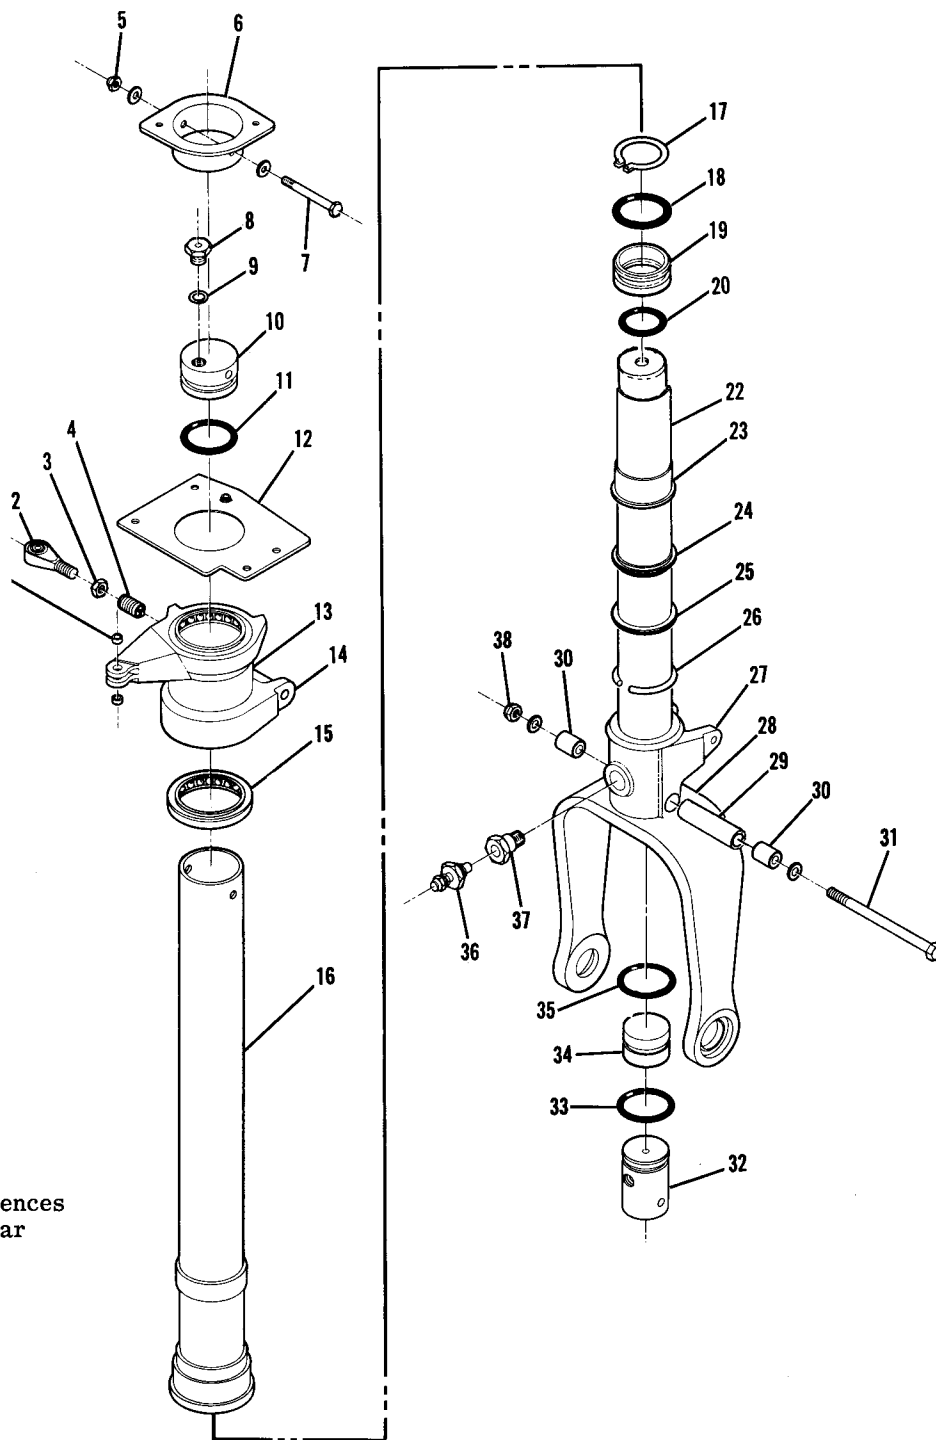
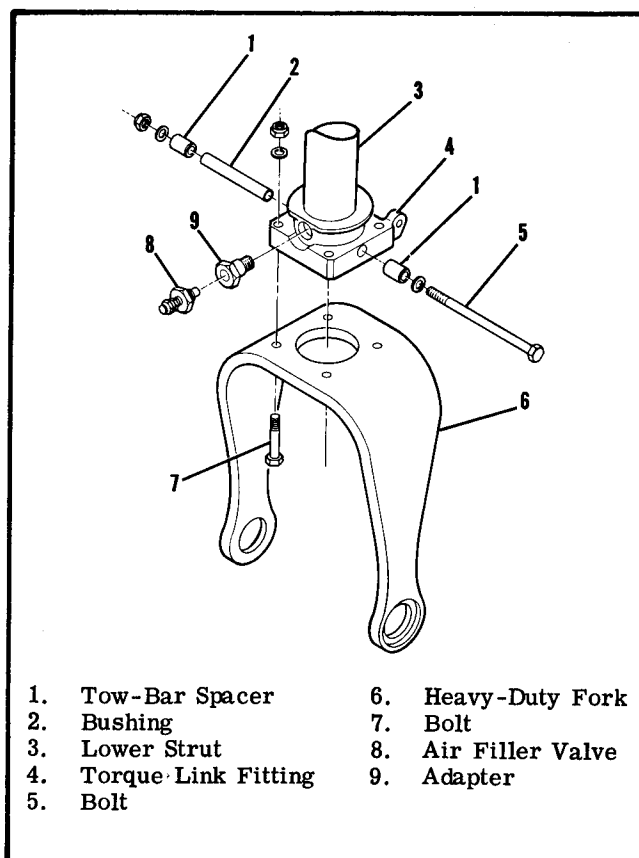

Figure 5-9. Standard Nose Gear Strut
Figure 5-10. Heavy-Duty Nose Gear Strut
5-27. The standard nose gear shock strut is shown in figure 5-9. The optional heavy-duty nose gear, discussed later in this Section is shown in figure 5-10. Removal and installation of the nose gear may be accomplished as outlined in paragraph 5-19. Speed fairing and wheel removal and installation is outlined in paragraphs 5-20 and 5-21.
5-28. STANDARD NOSE GEAR DISASSEMBLY. (Refer to figure 5-9.) The following procedures apply when the shock strut, speed fairing and nose wheel have been removed. In many cases, separating the upper and lower struts will permit replacement of parts and inspection without removal or complete disassembly.
See figure 5-10 for differences of the heavy-duty nose gear strut.
5-29. ASSEMBLY OF STANDARD NOSE GEAR STRUT. (Refer to figure 5-9.)
5-31. The optional heavy-duty nose gear is shown in figure 5-10. Procedures outlined in paragraphs 5-28 and 5-29 should be followed during removal, disassembly, assembly and replacement, with exceptions noted in figure 5-10.
5-33. **SHIMMY DAMPENER.** (Refer to figure 5-12.) The shimmy dampener offers resistance to shimmy by forcing hydraulic fluid through small orifices in piston (9). Barrel (4) is secured to a dampener fork which is attached to a stationary part of the aircraft structure. Dampening piston rod (8) is secured to the nose wheel steering collar (item 13, figure 5-9), which moves as the nose wheel is turned. This causes relative motion between barrel and piston rod. When assembling shimmy dampener, use new O-rings. Lubricate parts with clean hydraulic fluid during assembly. Paragraph 2-27 describes shimmy dampener servicing procedures.